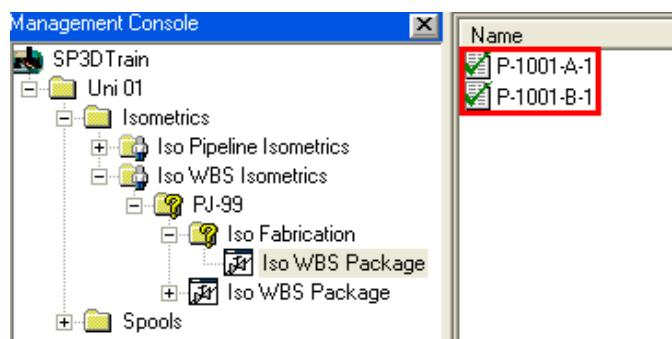

Figure 18. 43: Successfully Created Drawings P-1001-A-1 and P-1001-B-1
34. After the updation process is complete, double-click the isometric drawings created for the WBS items one by one. A pictorial representation of both isometrics will be displayed, as shown in Figure 18. 44 and Figure 18. 45.